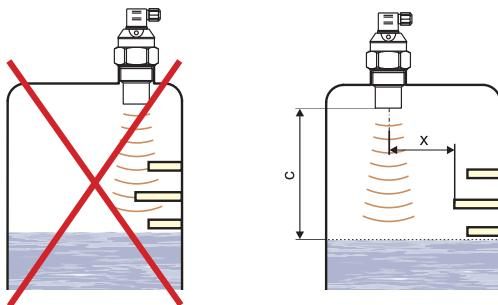

Fig. 6: Minimum distance of the level meter to nearby objects in the tank
h) Emitted acoustic signal must not be affected by **near objects** (ladders, mixers, propellers, etc.), stream of filling, air flow, etc. (Fig. 6).